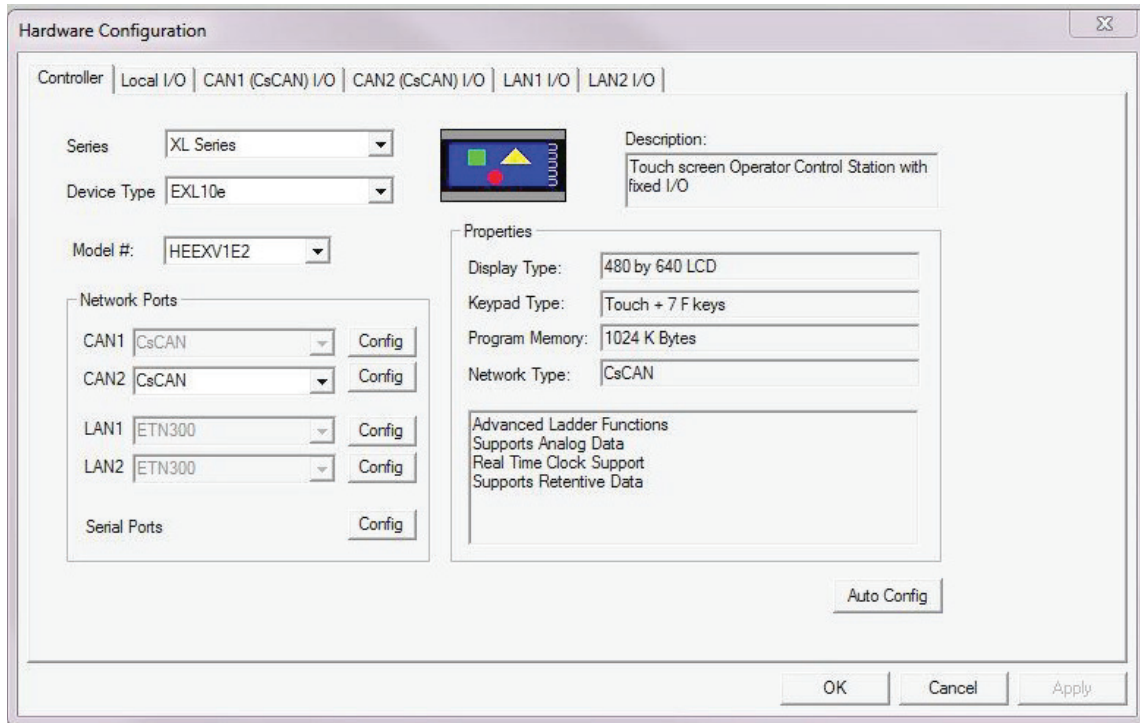

Figure 7.1 – I/O Configuration Dialog
1. On the main Cscape screen, select the **Controller** menu and its **I/O Configure** sub-menu to open the I/O Configuration dialog (Figure 7.1)